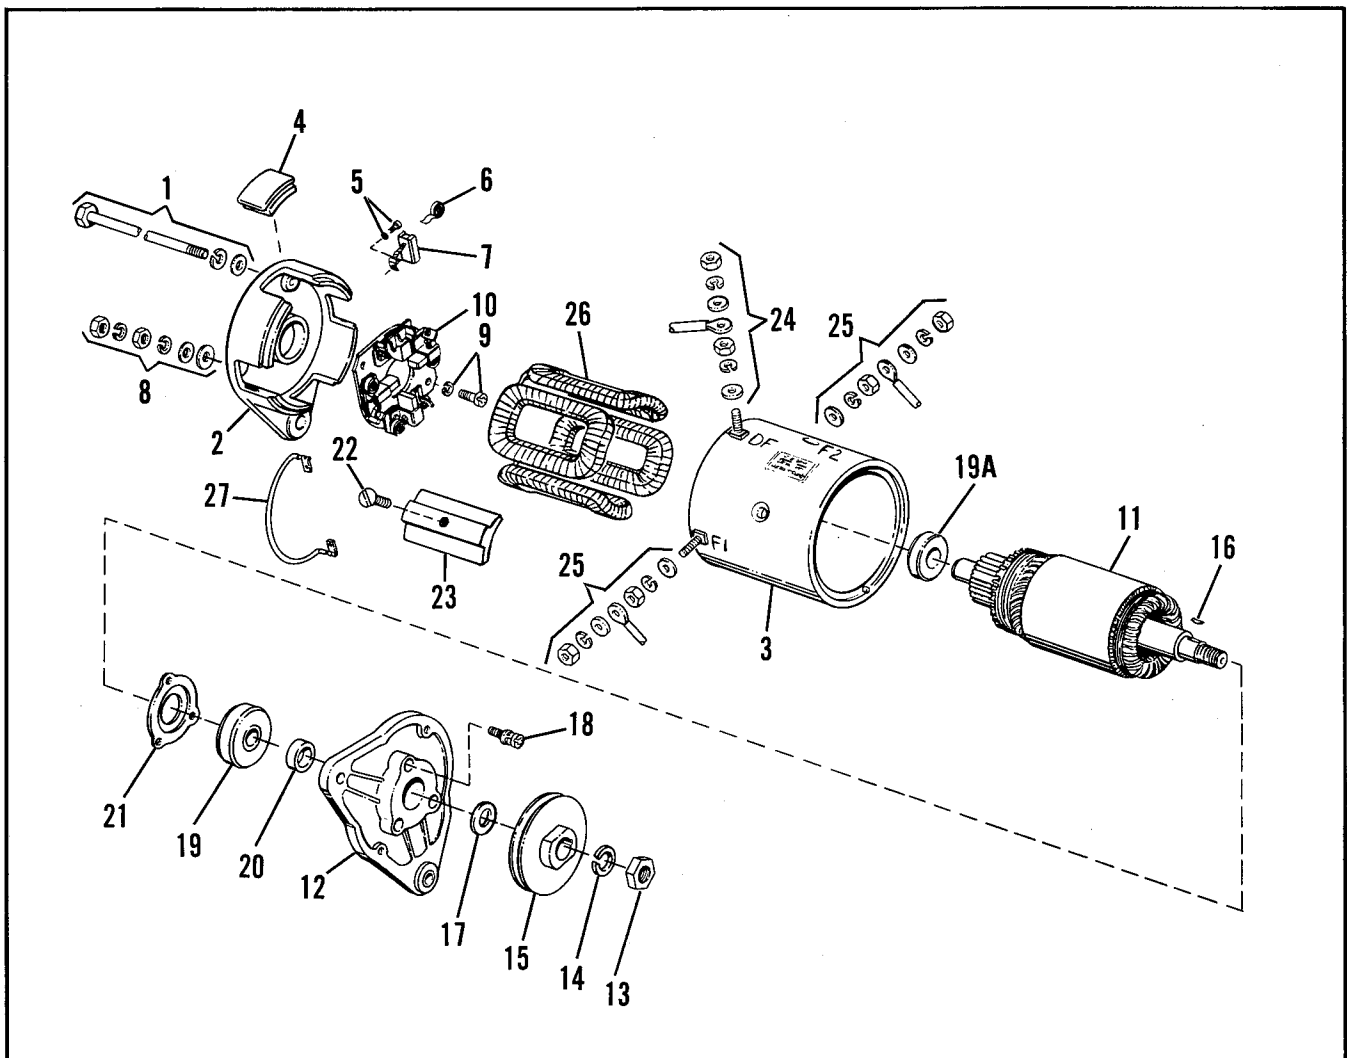

Figure 10-9 – Starter-Generator Disassembly
Disassembly (Figure 10-9)
Assembly (Figure 10-9)
- c. Figure 10-9 shows correct stacking of wire mounting bolt hardware (24), (25).